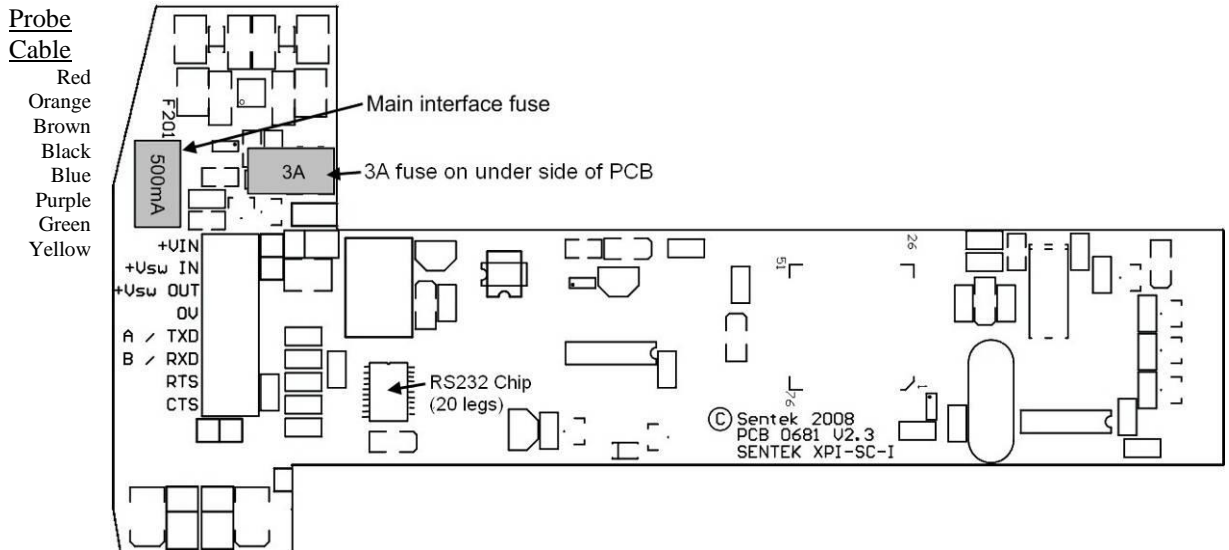

Figure 8 EasyAG PLUS interface and wiring diagram
- Twist the exposed copper wire and fold in half. Then fasten into the probe connector according to the diagram in *Figure 8*.